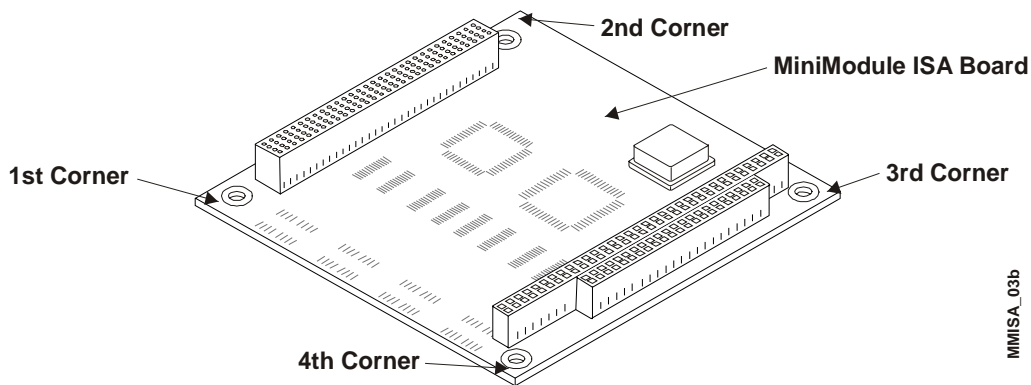

Figure 2-8. Removing the MiniModule ISA Board
2. Lift up slightly at the first corner of the module as shown in Figure 2-8.
3. Lift up slightly at the second corner of the module as shown in Figure 2-8.
4. Lift up slightly at the third corner of the module as shown in Figure 2-8.
5. Lift up slightly at the fourth corner of the module as shown in Figure 2-8.